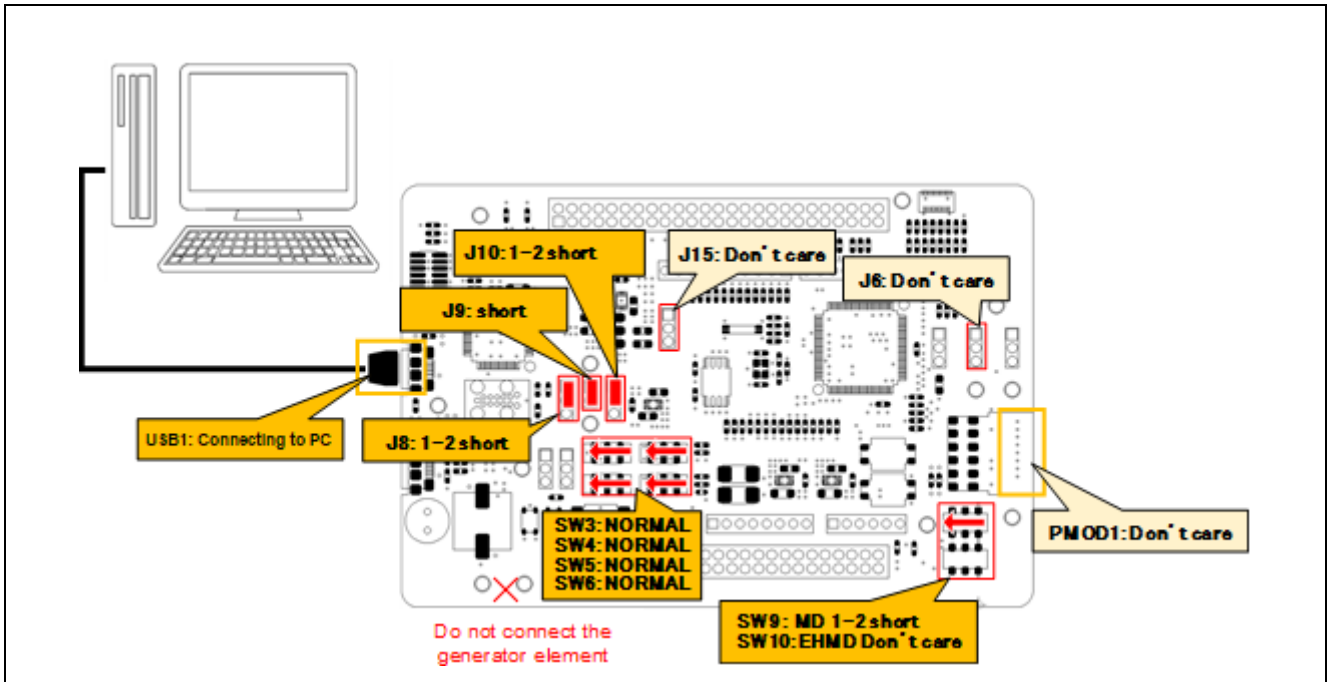

Figure 2.4 Board setting when downloading the program
2. Follow the board setting shown in Figure 2.4 before downloading the program *¹
- Fig. 2.4 shows the board setting when downloading the program.